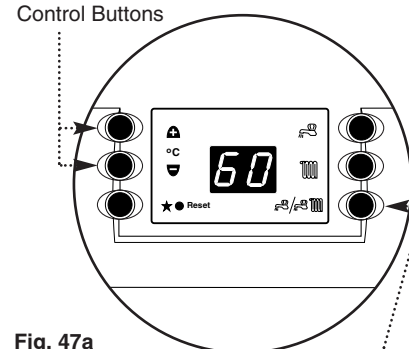

Fig. 47a
1. For optimum efficiency, this boiler can be controlled by an optional control accessory, the Baxi Intellistat (Part No. 247495). To activate the Intellistat, the boiler installer parameter No 6 requires switching from "60" to "61" (Figs 47a & b).
3. Press the Summer/Winter Mode Button marked (  ) until the display shows "60" (Fig. 47a). The "6" indicates that the installer parameter for switching on/off the Intellistat has been selected. The "0" indicates that this parameter is switched off. Press the "+" Temperature Control Button so that the display shows "61" (Fig. 47b). The "1" indicates that the installer parameter for activating the Intellistat is switched on. One minute after the parameter has been set, the display will revert to the normal operation.